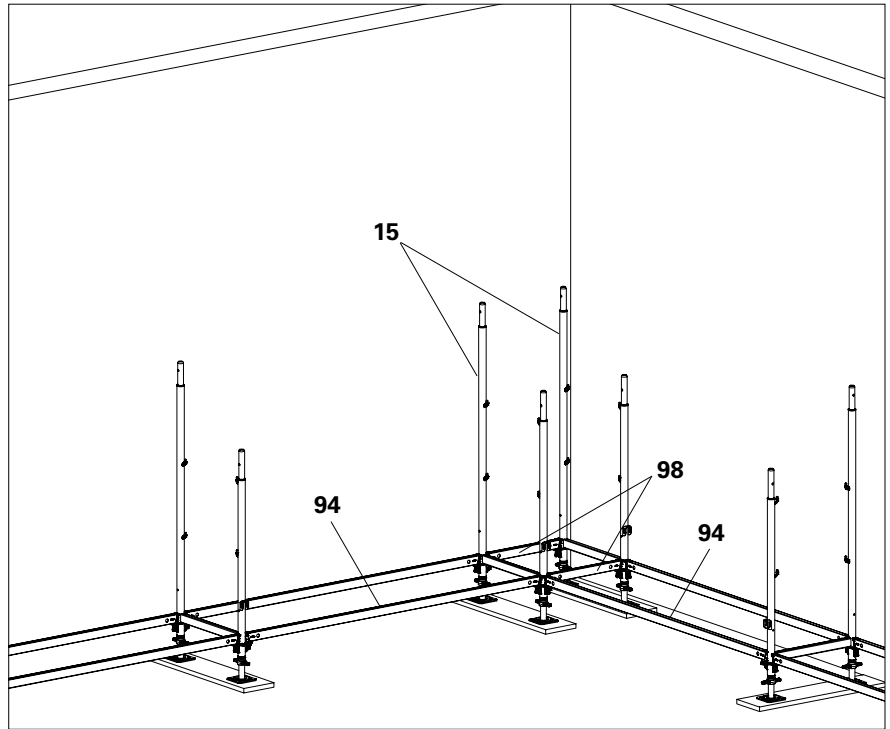

Fig. B6.07
1. Position two Base Frames EVB (15) in the inside corner at a distance that matches the scaffolding width (67 cm).
2. Connect the Base Frame EVB in the inside corner with two Horizontal Ledgers UH-2 67 (98). Secure the wedges.
3. In each case, connect the next frame column using two Horizontal Ledgers UH-2 (94).
- (Fig. B6.07 + B6.07a)